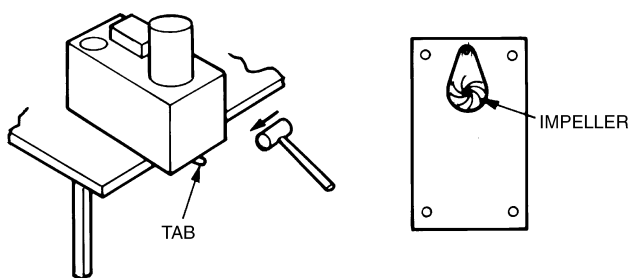

Fig. 3 — Cleaning Impeller Chamber
3. Place pump on table with baseplate tab protruding approximately one inch. See Fig. 3. Strike the tab with a hammer to unsnap the tab. Remove the O-ring seal and keep it clean for replacement.